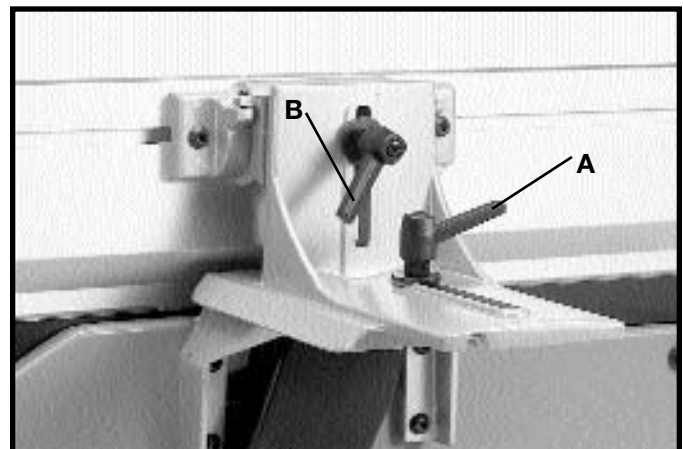

Fig. 25
1. To move the fence across the table, loosen lock lever (A) Fig. 25, slide the fence to the desired position on the table and tighten lever (A). **NOTE:** Lock lever (A) is spring loaded and can be repositioned by pulling up on the lever and repositioning it on the nut located underneath the lever.
2. To tilt the fence, loosen lever (B) Fig. 25, and tilt the fence to the desired angle. Then tighten lever (B). **NOTE:** Lever (B) is spring loaded and can be repositioned by pulling out on the lever and repositioning it on the nut located underneath the lever.